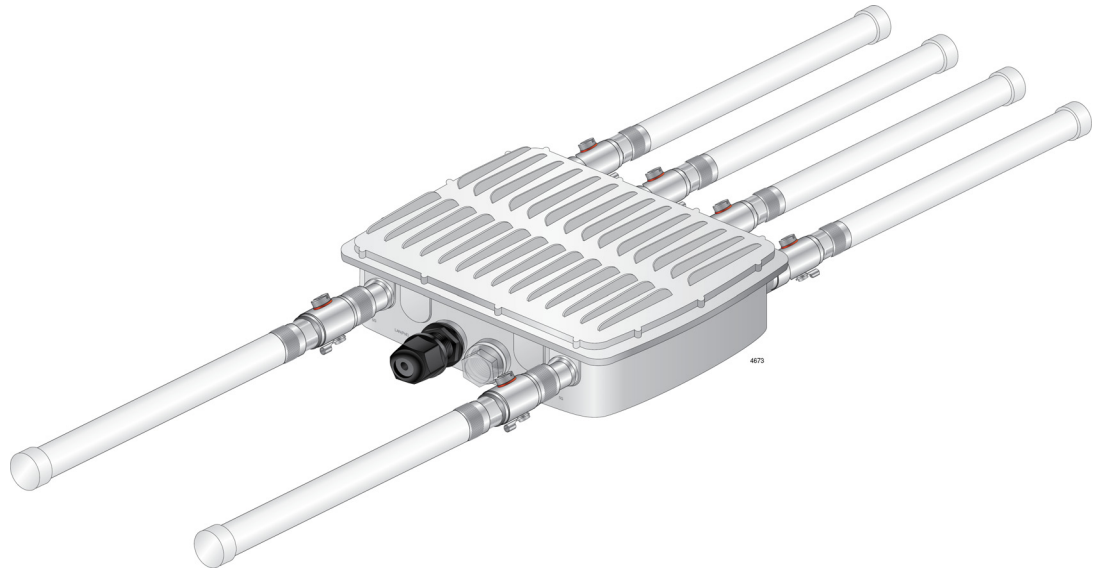

Figure 10. Installing the Antennas to the Access Point
4. Repeat Step 2 and Step 3 for the rest of the antennas. See Figure 10.